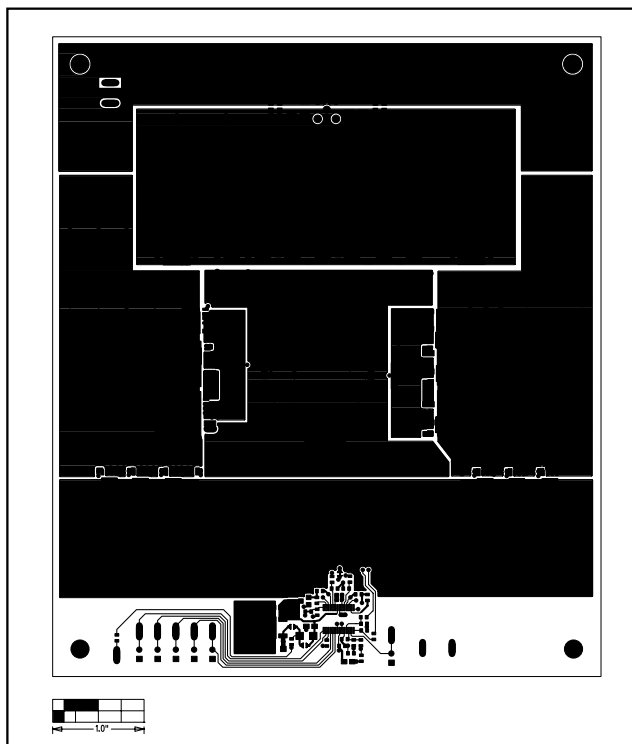

Figure 3. MAX1938 EV Kit PC Board Layout—Component Side
- 9) Use a DMM to monitor the output voltage. Connect the positive (+) terminal of DMM 2 to the pad labeled OUT (located in the upper-left corner of the EV kit board as shown in Figure 3). Connect the common (COM) or ground terminal of the DMM to the GND pad (located next to the OUT pad in the upper left corner).